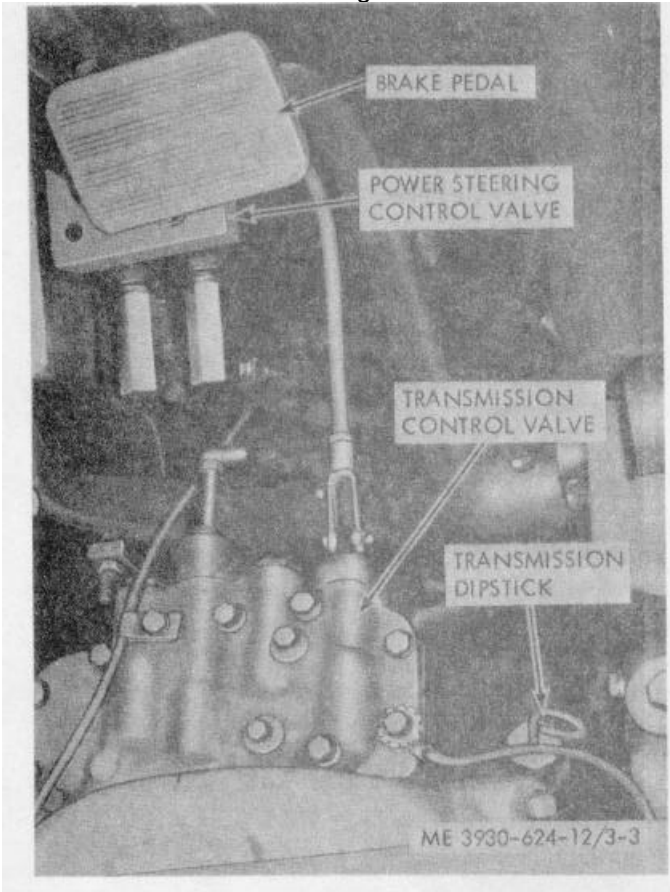

Figure 3-3. Transmission dipstick.
(1) Remove the plug in the floor plate to gain access to the dipstick located on the right side of the transmission case. Refer to figure 3-3.